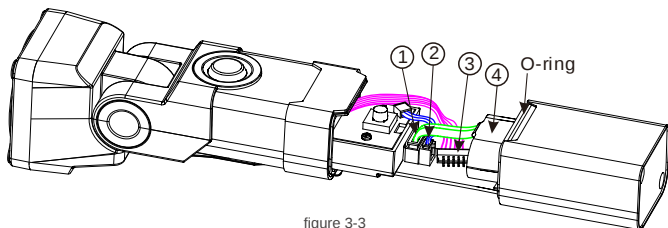

figure 3-3
Pull out the electronic module and unplug the connections of step ①/②/③ (figure 3-3)
Pull out the electronic module and unplug the connector ① to remove the battery ③, and then replace with a new battery (figure 3-3).